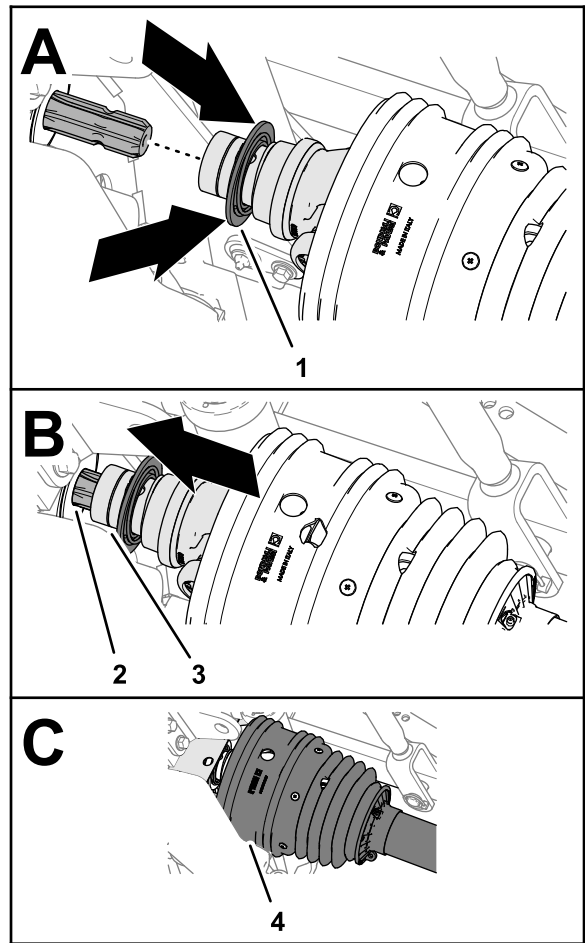

Figure 31
2. Pull back the lock collar of the quick-connect coupling (Figure 31).
3. While pulling back the lock collar, pull the PTO driveshaft yoke forward and slip the socket of the coupling yoke over the splines of the PTO output shaft (Figure 31).
5. Ensure that the shield is positioned over the driveshaft yoke (Figure 31).